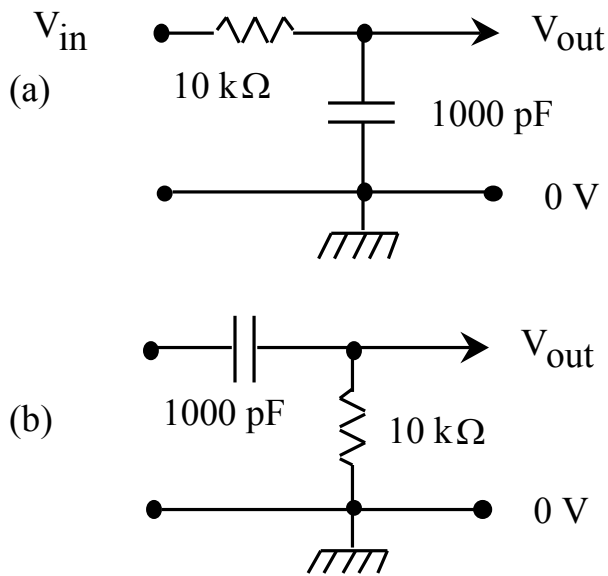

Figure 3.1
1. Calculate the cut-off or 3 dB frequency f_c in kHz for the low-pass filter in Figure 3.1 (a). Draw a Bode plot of the frequency response, sketching in the correct form near the half power point. (A Bode plot is a log-log plot of $|V_{out}/V_{in}|$ versus frequency. See H&H Fig. 4.31 for an example. Note that the axes are labeled in decades and the x and y step sizes are equal, so a $1/f$ frequency response appears as a line with a slope of -1 .)
2. Calculate the cut-off frequency for the high-pass filter in Figure 3.1 (b) and draw its Bode plot.